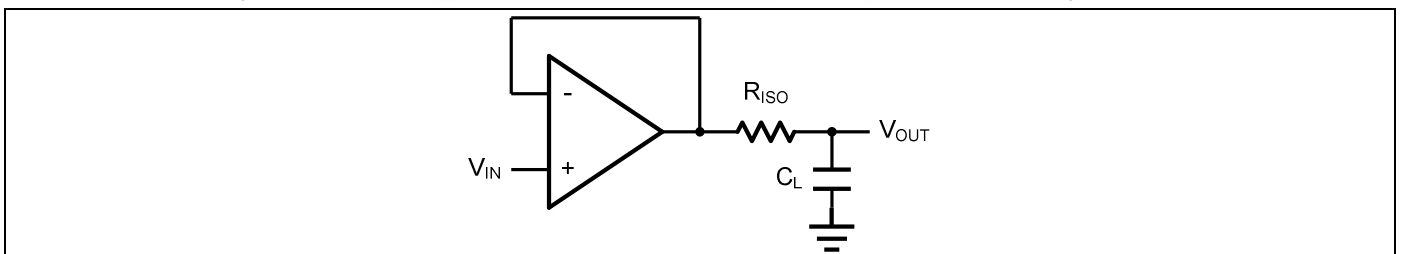
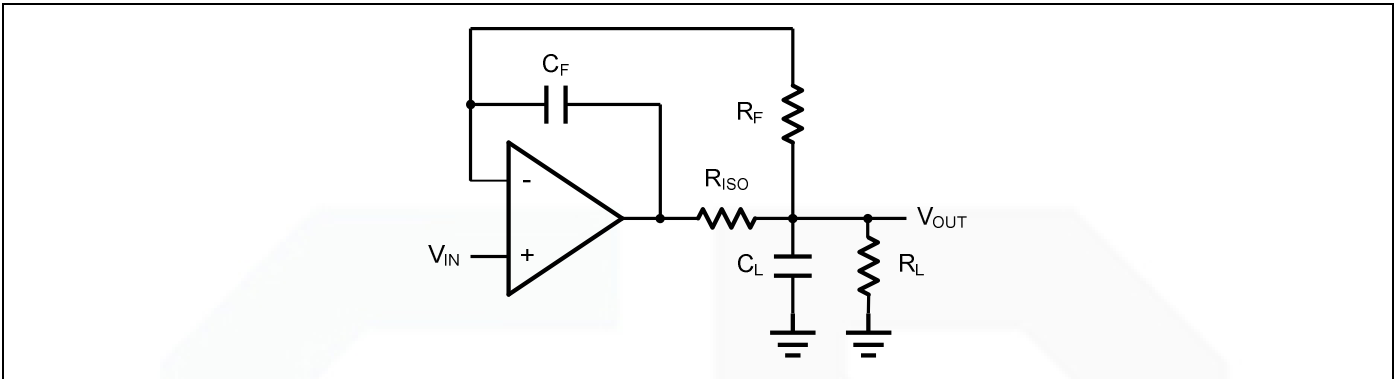

Figure 2 Indirectly Driving a Capacitive Load Using Isolation Resistor
Figure 3. Indirectly Driving a Capacitive Load with DC Accuracy
The GS600X family is optimized for bandwidth and speed, not for driving capacitive loads. Output capacitance will create a pole in the amplifier's feedback path, leading to excessive peaking and potential oscillation. If dealing with load capacitance is a requirement of the application, the two strategies to consider are (1) using a small resistor in series with the amplifier's output and the load capacitance and (2) reducing the bandwidth of the amplifier's feedback loop by increasing the overall noise gain. Figure 2 shows a unity gain follower using the series resistor strategy. The resistor isolates the output from the capacitance and, more importantly, creates a zero in the feedback path that compensates for the pole created by the output capacitance.
The circuit in Figure 3 is an improvement to the one in Figure 2. R_F provides the DC accuracy by feed-forward the V_{IN} to R_L . C_F and R_{ISO} serve to counteract the loss of phase margin by feeding the high frequency component of the output signal back to the amplifier's inverting input, thereby preserving the phase margin in the overall feedback loop. Capacitive drive can be increased by increasing the value of C_F . This in turn will slow down the pulse response.